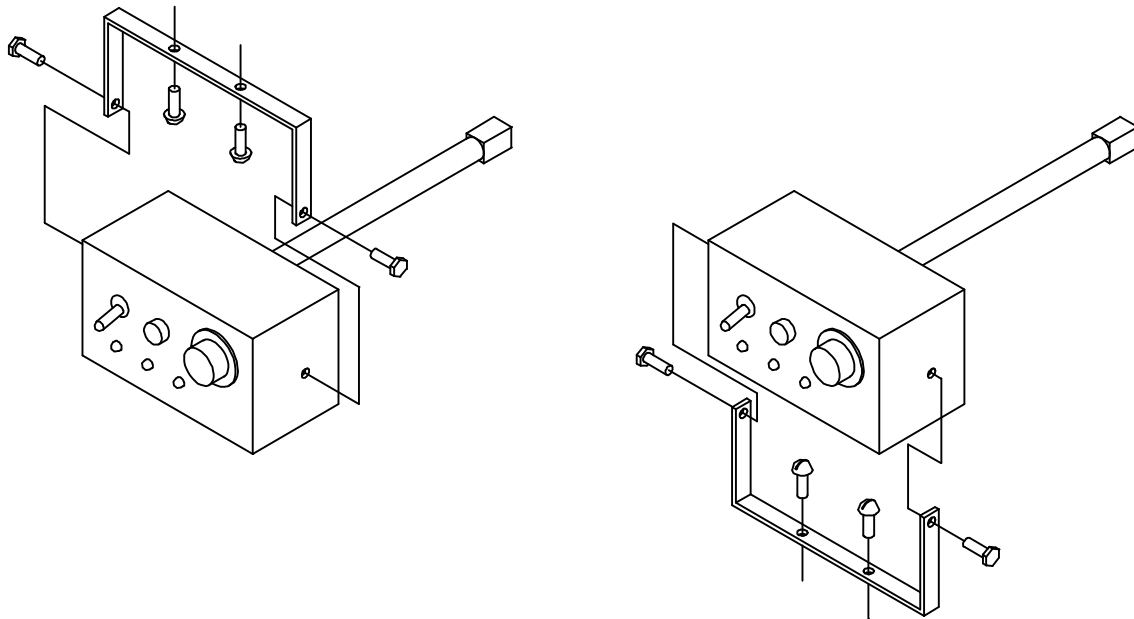

Figure 4. In-Cab Controller Mounting
- 2) The controller can be mounted either above or below the mounting bracket. Refer to Figure 4. Choose the best position that will not interfere with operation of the vehicle or visibility. DO NOT mount in a location that an occupant could contact during a crash.